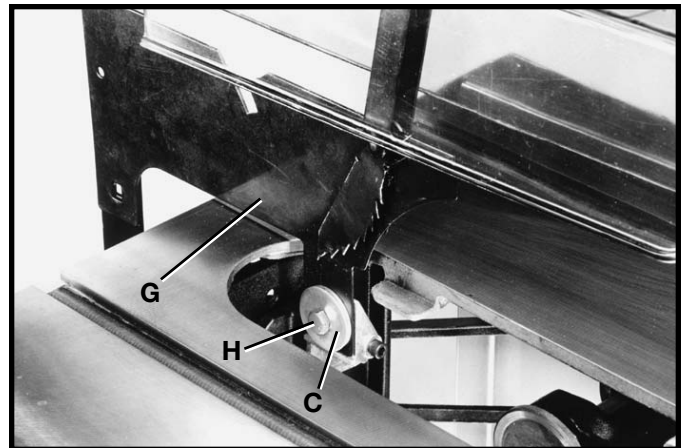

Fig. 32
7. Assemble the blade guard and splitter assembly (G) Fig. 32, between the large washer (C) and the splitter bracket and tighten screw (H) with wrench supplied.